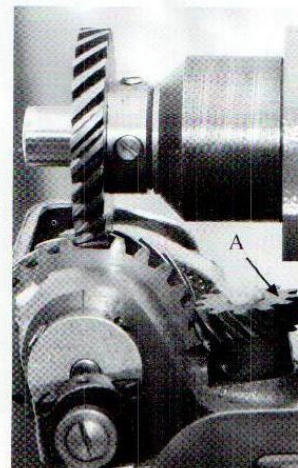

Fig.6
Loosen set screws in the looper drive shaft gear (A, Fig. 6). Turn pulley in operating direction until needle has reached the forward end of its left side travel and returned $3/32$ inch. Turn looper and its shaft so that the point of looper is over center of needle, and tighten set screws in gear (A). Lower point of looper as close to the needle as possible without deflecting the needle. Loosen screw (A, Fig. 7) to make this adjustment.